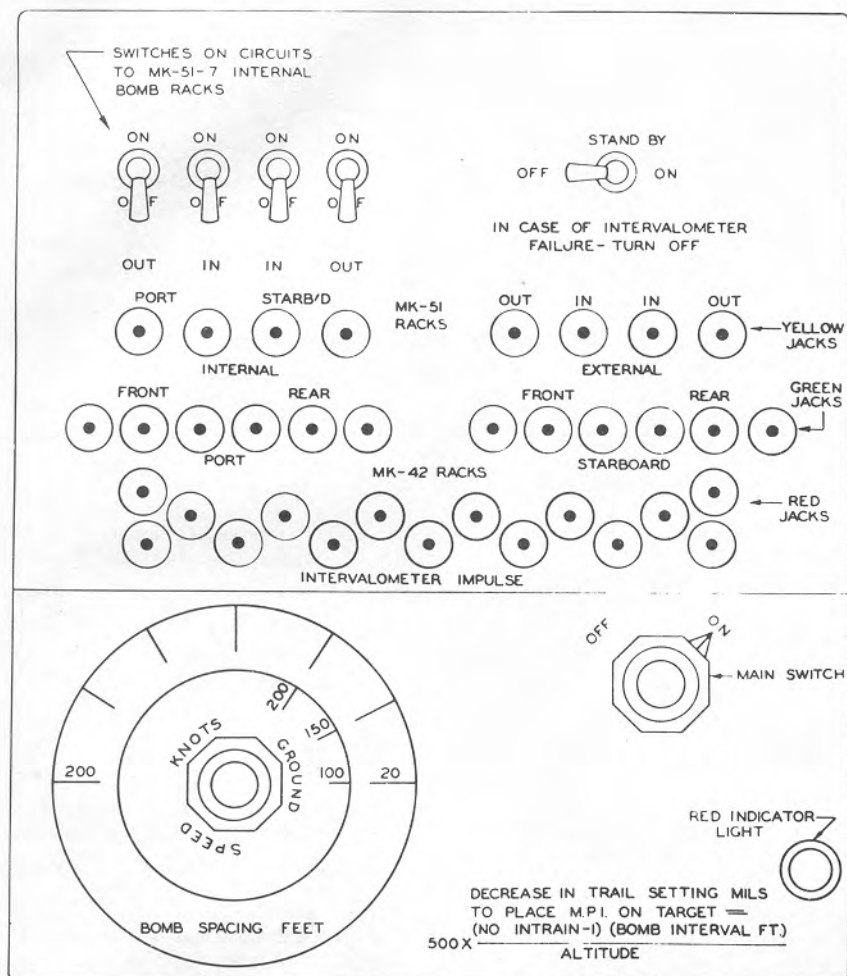

Figure 61—
e. The intervalometer Mk 2-1 is a multi-wire intervalometer. Its electrical mechanism provides for the release of bombs in train. The bombs are released successively so that their points of impact will be separated by that number of feet set by the bomber on the intervalometer. (See figure 61.)